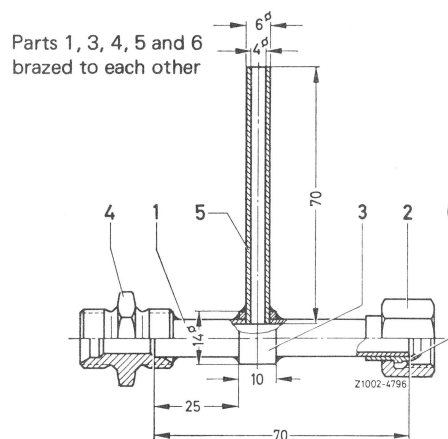

Fig. 2
Measuring connection	self-made acc. to Fig. 2
**Note:** The measuring connection is self-made acc. to dimensions in Fig. 2. For connection to the brake unit the pipe elbow including the coupling nut may be taken from an old vacuum line.